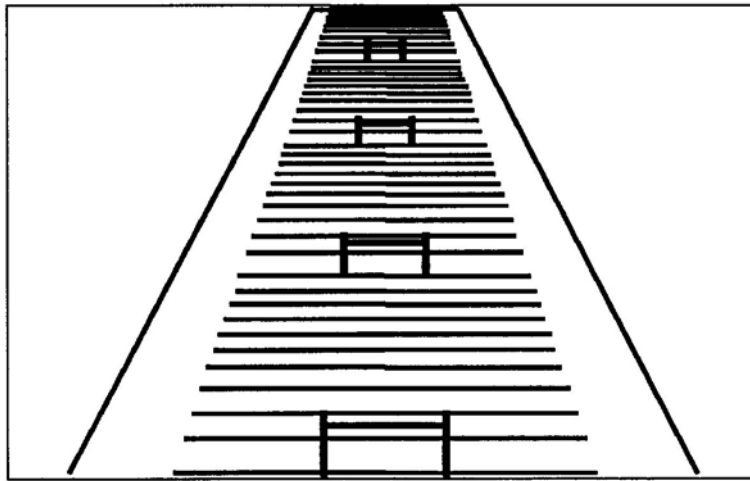

Figure 1. Football field method.
- a. Learn what a 100-meter interval (football field) looks like on the ground (Figure 1).